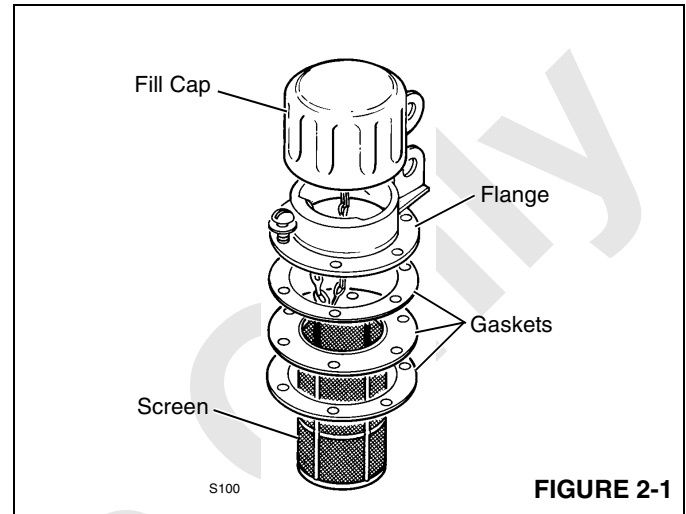

FIGURE 2-1
- b. Remove fill cap from flange (see Figure 2-1).
- b. Disassemble fill cap assembly (see Figure 2-1).
10. Clean fill cap assembly (Figure 2-1).